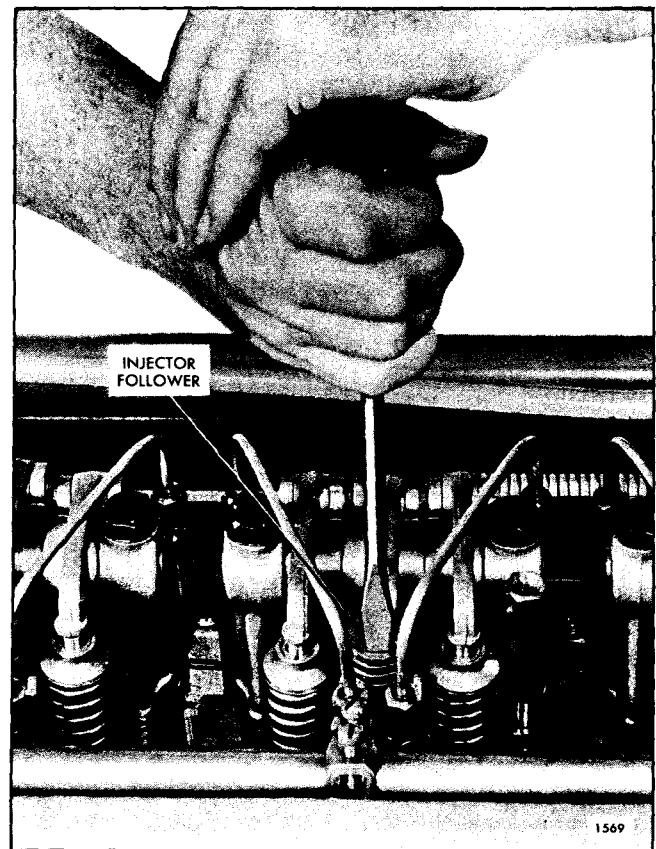

Fig. 1 - Locating a Misfiring Cylinder
4. Start the engine and hold an injector follower down with a screw driver (Fig. 1) to prevent operation of the injector. If the cylinder has been misfiring, there will be no noticeable difference in the sound and operation of the engine. If the cylinder has been firing properly, there will be a noticeable difference in the sound and operation when the injector follower is held down. This is similar to short-circuiting a spark plug in a gasoline engine.